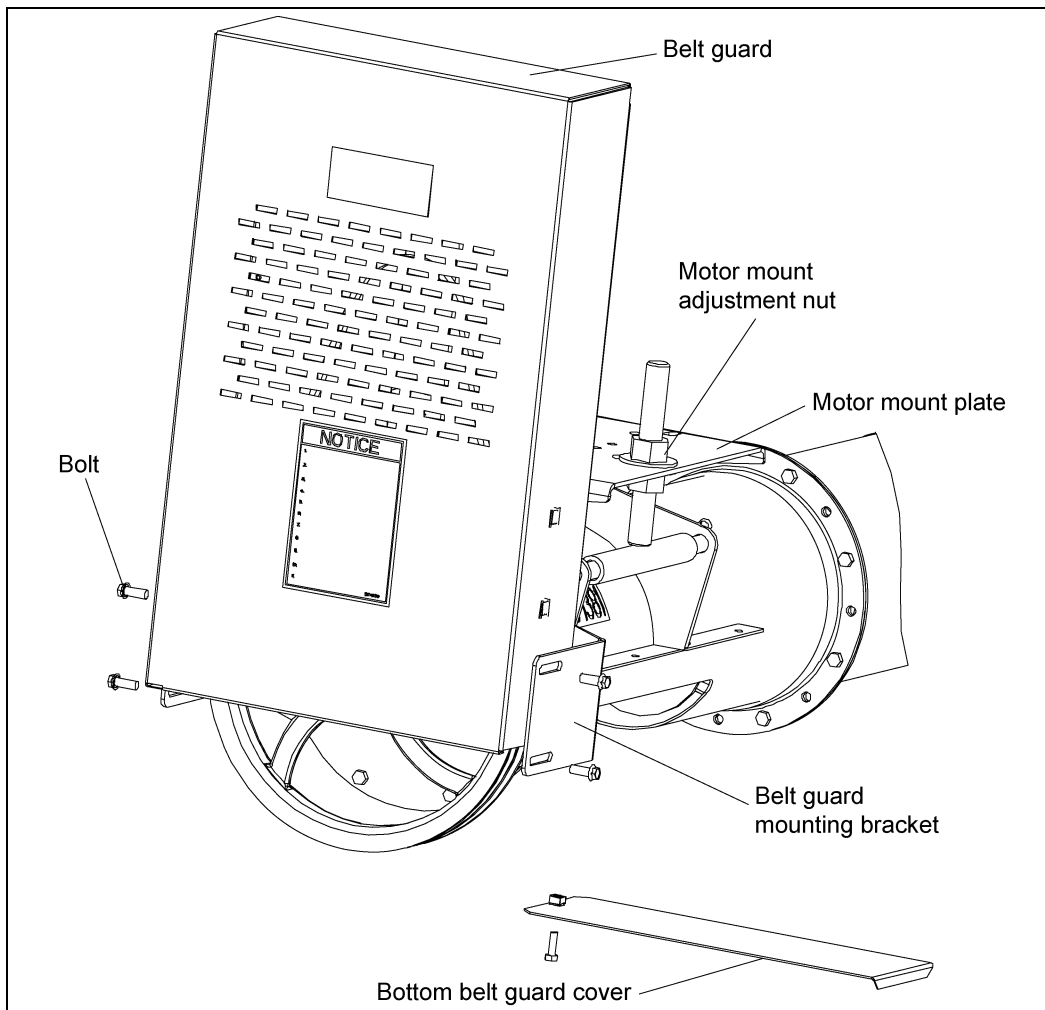

Figure 4K
3. Align the motor shaft and the flight drive shaft in the belt guard's slot, making sure that the belt guard DOES NOT contact either pulley, and tighten down the belt guard mounting brackets to the bearing plate. (See Figure 4K.)